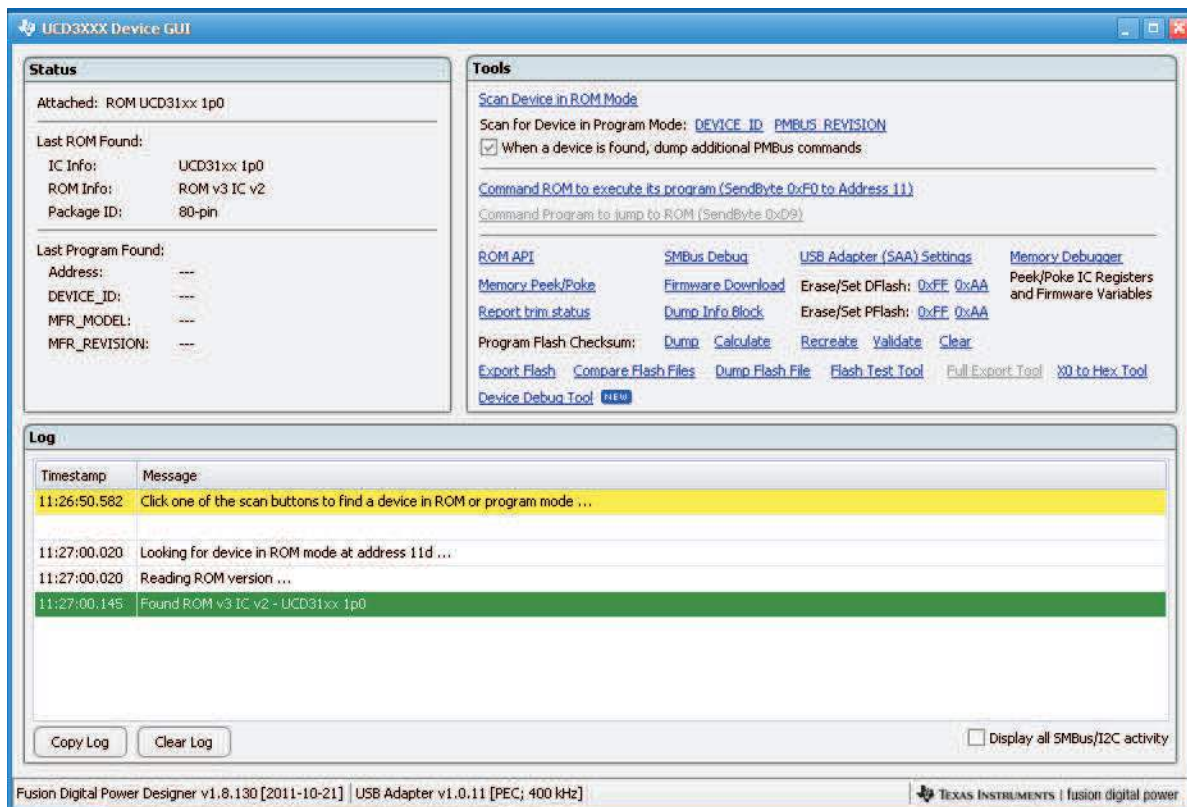

Figure 13. UCD31xx Device GUI
3. Launch the UCD31xx device GUI following the steps described in Section 6.2.1. A window shown in Figure 13 appears.